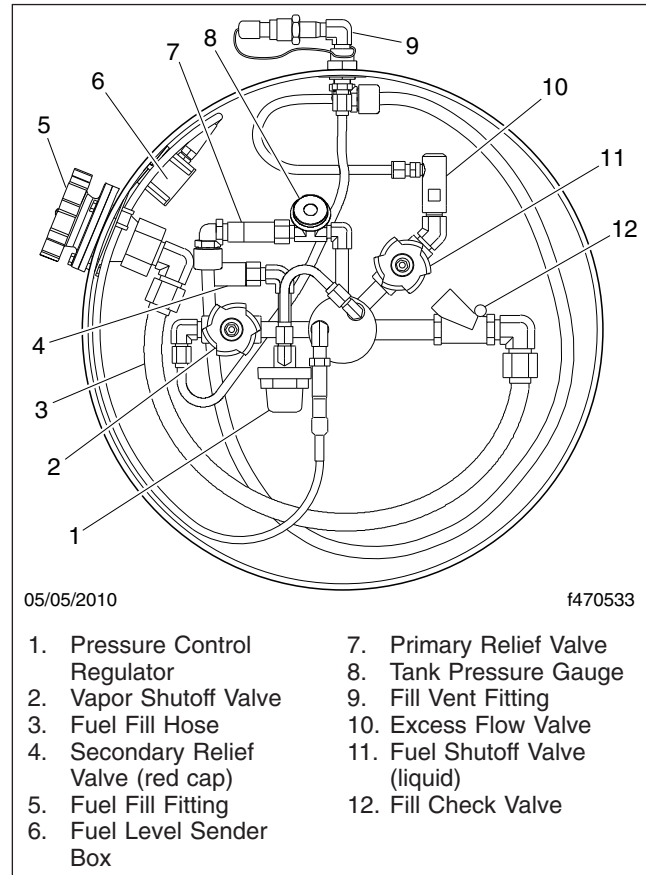

Fig. 9, Fuel Tank Plumbing Components
See Fig. 9 for plumbing component locations.
2. Inspect the fuel level sender box (Fig. 9, Item 6) for signs of leaks or damage. Ensure that the retainer clips are installed on the mounting ears.
- 2. Check the fuel tank pressure gauge (Fig. 9, Item 8) to ensure that pressure is within the normal range of 120 to 150 psi (827 to 1034 kPa).